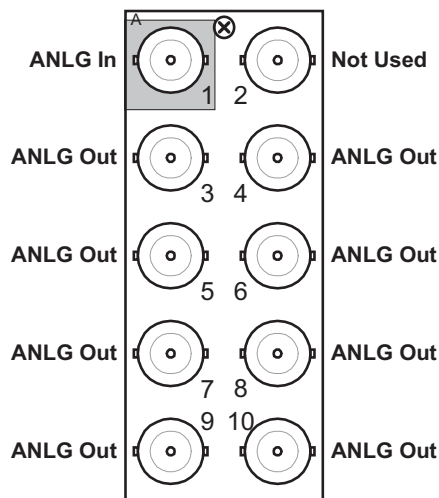

Figure 2.2 Cable Connections for the 8310AR-030 and 8320AR-030 Rear Modules
- **8310AR-030** Rear Module — Each card occupies one slot and provides one analog input, and eight analog outputs. (**Figure 2.2**)
- **8320AR-030** Full Rear Module — Each card occupies two slots and provides one analog input, and eight analog outputs. (**Figure 2.2**)